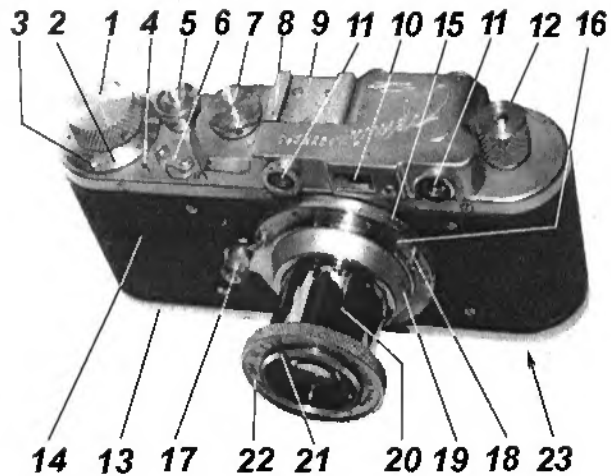

Fig. 1
(fig. 1).
5. Replace the baseplate 13 (fig 1), press it and twist the lock key 23 clockwise by half a turn. The arrow on the key will now point to «ЗАКРЫТО» = "closed". Check that the baseplate is properly closed.
exposures. Check if film has been properly loaded-when correct, the rewind knob 12 (fig 1) should turn.
transport sprocket where it is in contact with it. Film movement will be stopped as the sprocket teeth will just rotate where the film perforations are torn. This error is easy to detect by the absence of any movement in the film rewind knob 12 (fig 1) and by the rustle associated with moving film.
1. Press the shutter release button 5 (fig 1). Cap the lens.
3. Pull out the rewind knob 12 (fig 1) and turn it to the direction of the engraved arrow. Rewinding is at its end when a slight resistance (from film being yanked out of the takeup spool) is felt and when the shutter release button 5 stops rotating.